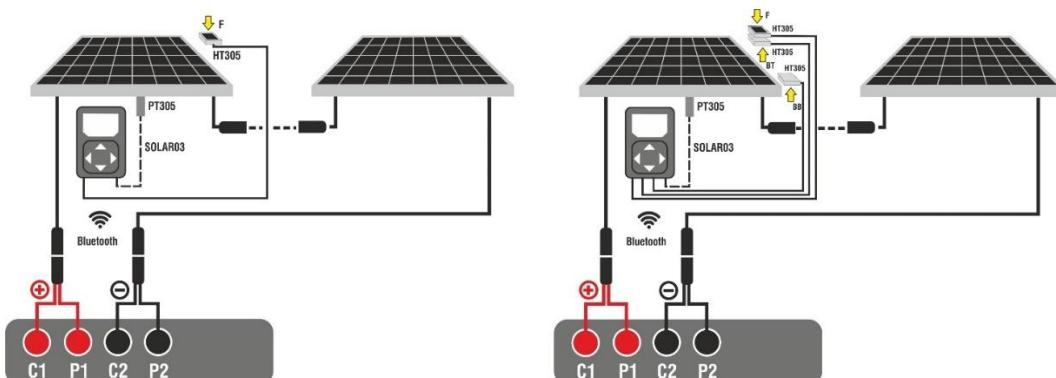

Fig. 63: Connection with remote unit SOLAR03 on Monofacial and Bifacial modules
3. Connect the instrument and the SOLAR03 remote unit to the module/string being tested as shown in Fig. 63. In detail:
- **In case of Monofacial modules** → position the reference cell **HT305** onto the front surface of module (F) and at input "INP1" and **possibly** temperature probe **PT305** at input "INP4" of the remote unit.
- **In case of Bifacial modules** →, position the **three HT305 reference cells** on the front surface of module (F), on the top back section (B = BackTop) and on the bottom back section (BB = BackBottom) of the module. Connect the front reference cell (F) to input "INP1", BT reference cell to input "INP2", BB reference cell to input "INP3" and **possibly** the temperature probe **PT305** to input "INP4" of the remote unit. In accordance with the IEC/EN60904-1-2 standard, the instrument calculates the equivalent front-side Irradiance (**IrrEq**) value, which corresponds to the Irradiance on the front surface only, which produces the same effects as the Irradiance measured on both sides, considering the **bifaciality factor** ( $\varphi$ ) of the module according to the following relationship: